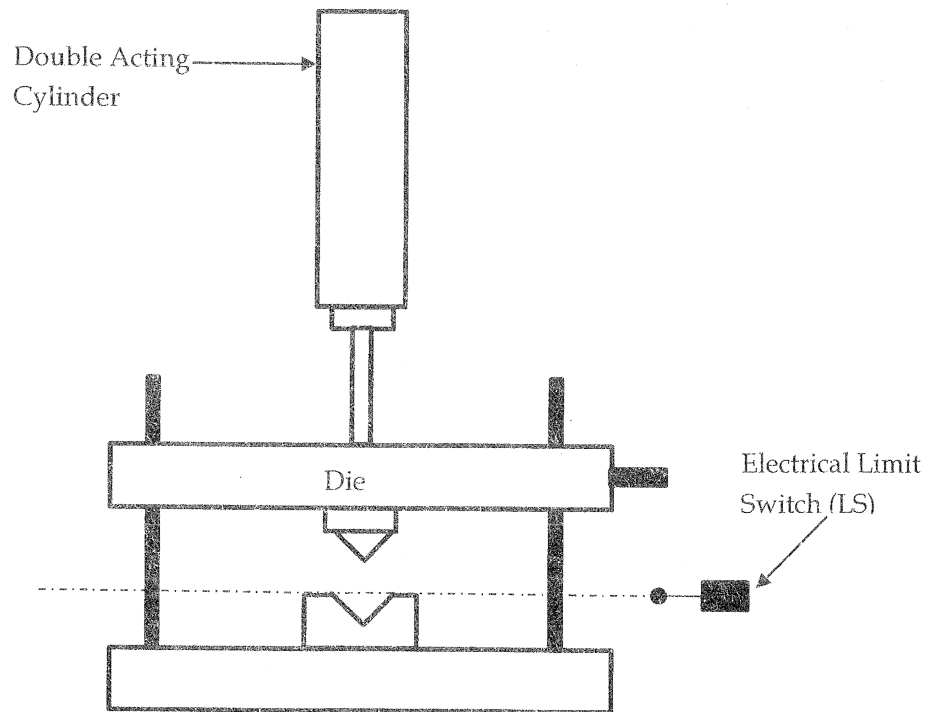

Figure Q3(d): Press Machine
- d) Figure Q3 (d) shows a press machine which is occupied in a plastic manufacturing plant. An electro-pneumatic system is used to operate it. Once switched ON, the machine should satisfy following requirements,
- When the limit switch (LS) is activated, the die will remain its position for 5 s (Using an on-delay relay) and retract. The operator has to manually press PB1 again for the next cycle.